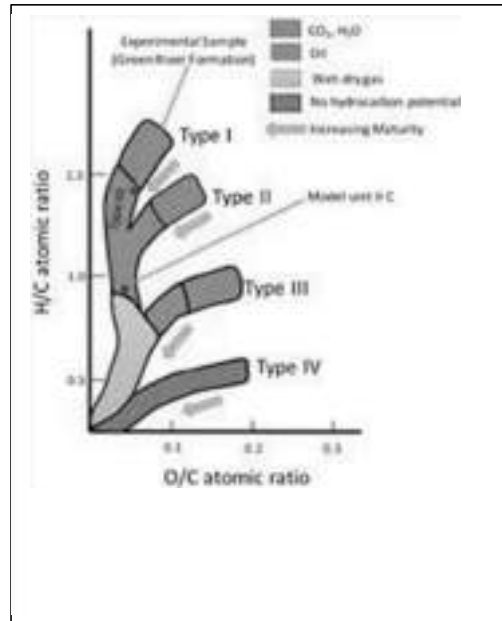

Fig. 4 : kerogen types
**Kerogen :** The naturally occurring, solid, insoluble organic matter that occurs in source rocks and can yield oil upon heating. Kerogen is the portion of naturally occurring organic matter that is nonextractable using organic solvents. Typical organic constituents of kerogen are algae and woody plant material. Kerogens have a high molecular weight relative to bitumen, or soluble organic matter. Bitumen forms from kerogen during petroleum generation( Fig.4).